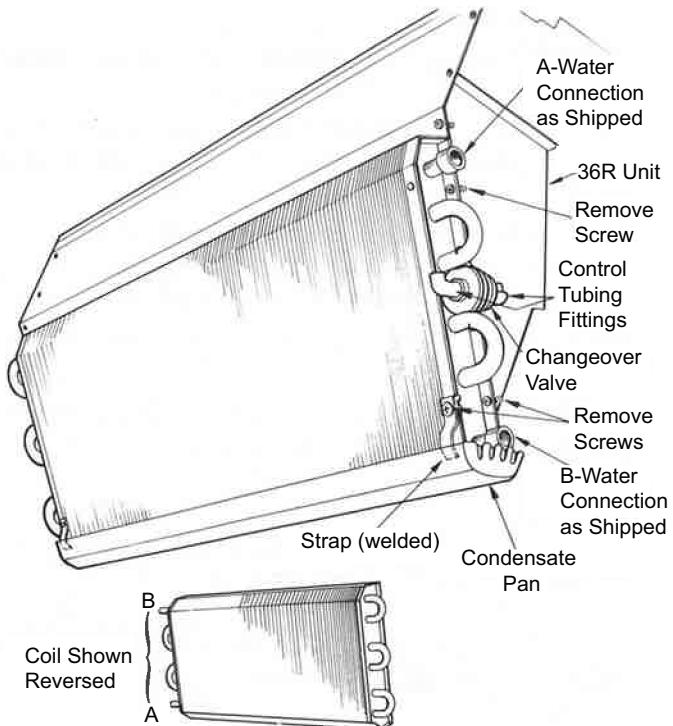

**Fig. 16 – 36SH Installed in Carrier Enclosure**
3. Remove Z bars from shipping position; fasten to unit with screws and clips provided. Install ceiling mounting plates to ceiling; lift unit and fasten Z bars to mounting plates. See Fig. 16. (Mounting plates may be installed on Z bars and entire assembly lifted to be secured to ceiling.)